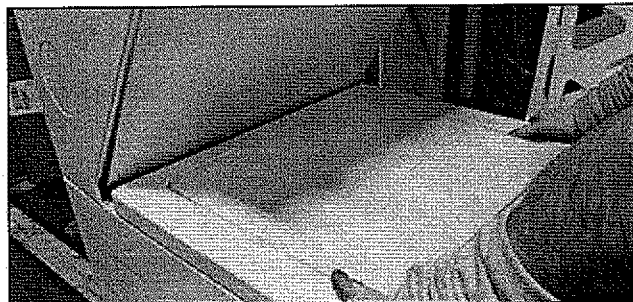

FIGURE 3
4. Slide the top forward gently. Lift the back a little to make sure you don't catch the red retainer clips. (Ignore that the back splash panel is still installed in the following picture. It should have already been removed in step 2.) See *Figure 3*.